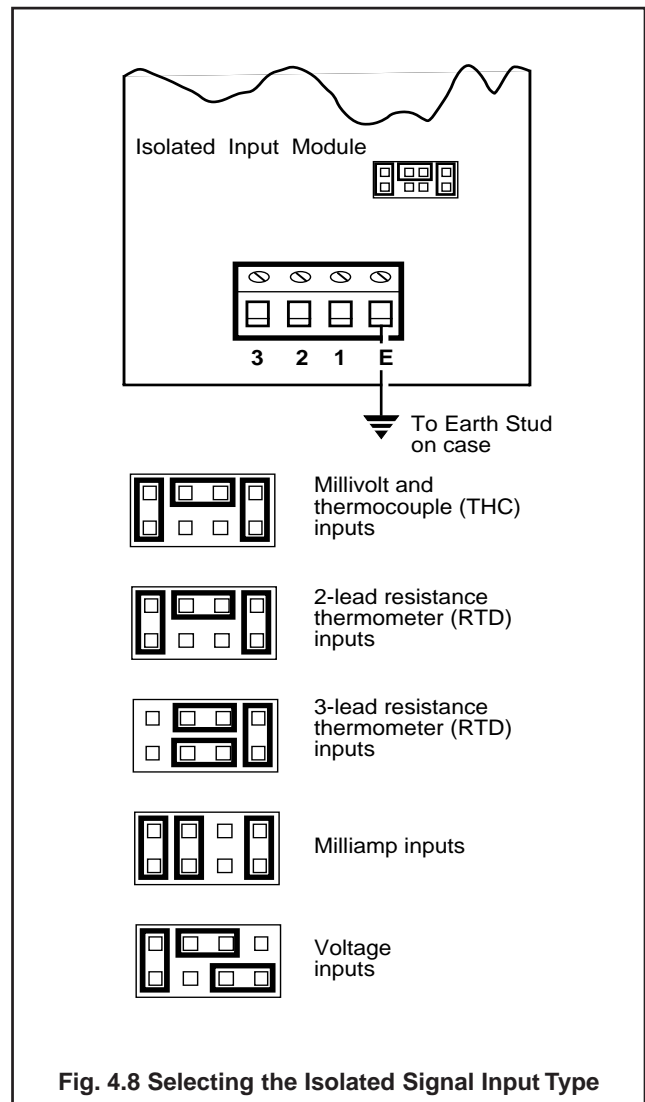

Fig. 4.8 Selecting the Isolated Signal Input Type
4.4.1 Selecting the Isolated Signal Input Type – Fig. 4.8